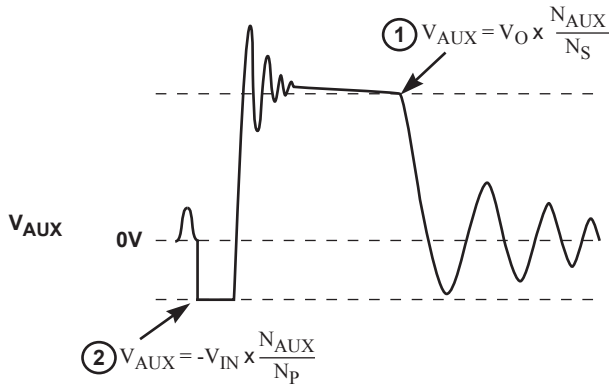

Figure 9.3: Auxiliary Voltage Waveforms
and reflects the output voltage as shown in Figure 9.3.
After a soft-start has been completed, the default output voltage should be 5V and the actual output voltage is related to the external V_{SENSE} voltage divider network and transformer secondary-to-auxiliary winding turns ratio. The digital control block measures the output conditions. It determines the output power levels and adjusts the control system according to a light load or heavy load. If this is in the normal range, the device operates in the Constant Voltage (CV) mode, and changes the pulse width (t_{ON}) and off time (T_{OFF}) in order to meet the output voltage regulation requirements. At the steady-state CV operation of 5V setting, the V_{SENSE} pin voltage at the instant corresponding to point 1 (as indicated in Figure 9.3) is regulated to $V_{SENSE_5V(NOM)}$ in most conditions, e.g. 1.536V (typical). If the default output voltage is set to 5V, the iW1780 changes the output voltage to 9V or 12V upon request from the secondary-side controller with the built-in primary-side feedback, scaling, and control. Then this V_{SENSE} pin voltage changes in proportion to the different output voltage levels.
The secondary maximum output DC voltage V_{BUS} is limited by the iW1780. In most conditions, when the V_{SENSE} signal at point 1 as indicated in Figure 9.3 exceeds the output OVP threshold, the iW1780 shuts down. While the iW1780 can protect against the V_{OUT} over-voltage through the V_{SENSE} signal in most conditions, it is difficult for the iW1780 to protect the over-voltage caused by output voltage setting mismatch between the iW1780 and the iW626. If V_{SENSE} signal scaling is not set correctly, the over-voltage cannot be detected through V_{SENSE} at the primary side. The iW1780/iW626 chipset added one more layer of OVP. When the V_{OUT} rises to above the over-voltage threshold of the iW626's present state, the iW626 drives the DRV pin in a special switching pattern serving as an OVP signal and turns on both the fast and slow discharge. After the iW1780 receives this OVP signal, it shuts down the power supply promptly.